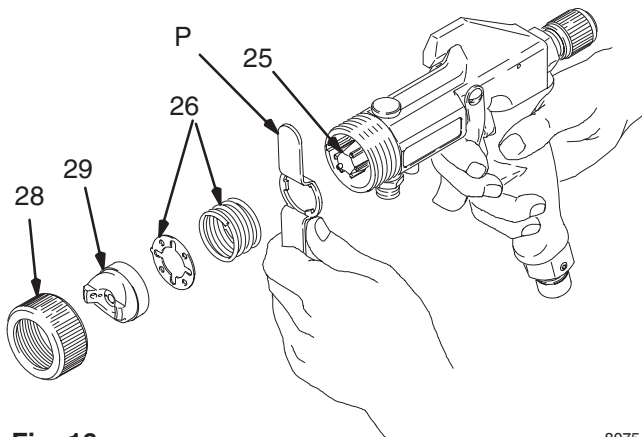
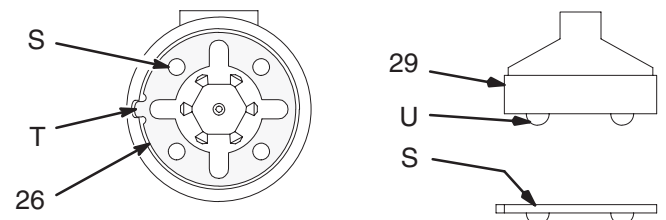

Fig. 16
Fig. 18
2. Remove air cap retaining ring (28), air cap (29), spring (26), and detent plate (26). See Fig. 16.
3. Trigger gun while removing fluid nozzle (25) with nozzle wrench (P), provided. See Fig. 16.
4. Remove gun fitting (19) from back of gun. Remove needle for cleaning.
7. Trigger gun while installing fluid nozzle (25) with nozzle wrench (P). See Fig. 16.
8. Install spring (26) into front of gun.
9. Install detent plate (26) into gun housing with open sockets (S) facing up; align detent plate tab (T) with notch in gun housing. See Fig. 18.
10. Install air cap (29), aligning air cap balls (U) with detent plate sockets (S). See Fig. 18. Secure air cap with air cap retaining ring (28).